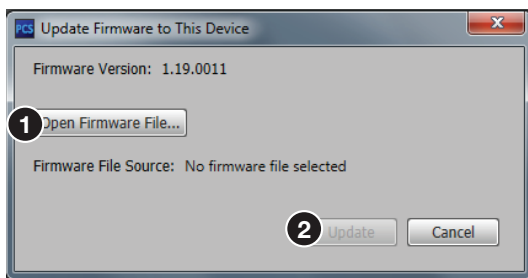

Figure 44. Update Firmware to This Device Dialog Box
4. Click the **Open Firmware File** button (see figure 44, ①).
7. In the Update Firmware dialog box, click **Update** (②). The progress bar shows the progress of the firmware upload to the device.